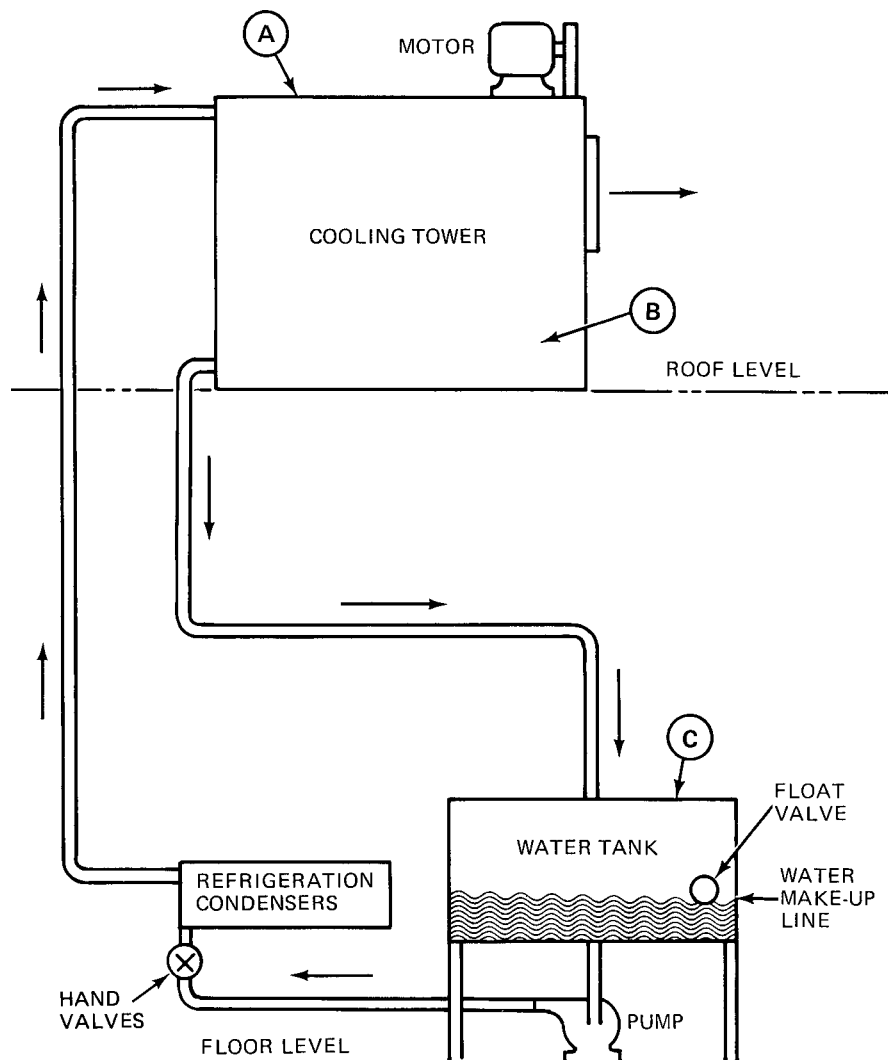

Fig. 9-5 Forced- and natural-draft towers. (A) Water-tower distribution plate. (B) Sump. (C) Water tank. (Virginia Chemicals)
2. Close the bleed line and refill the sump with fresh water to the lowest level at which the circulating pump will operate. See Fig. 9-5.
Refer to Fig. 9-5. The scale removers can be introduced at the water-tower distribution plate (A), the sump (B), or the water tank (C). Convenience is the keyword here. The preferred addition point is directly into the pump-suction area.